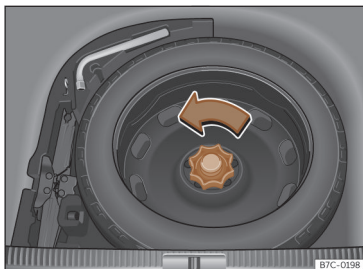

Fig. 224 In the luggage compartment: raised load floor.
- Turn the thumb wheel anticlockwise >>> **Fig. 224**.